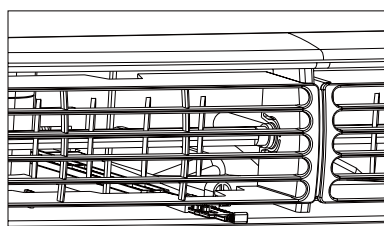

Figure 2 (VENT OPEN)
2. Exchange air from the room - Vent Open (see Fig. 2)